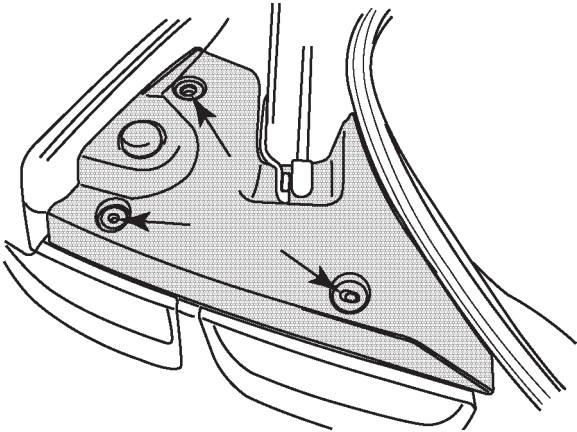

FIGURE 1
- Open trunk and remove 3 scrivets per side. Retain. Remove LH & RH tail lamp access cover. Retain. Refer to figure 1.